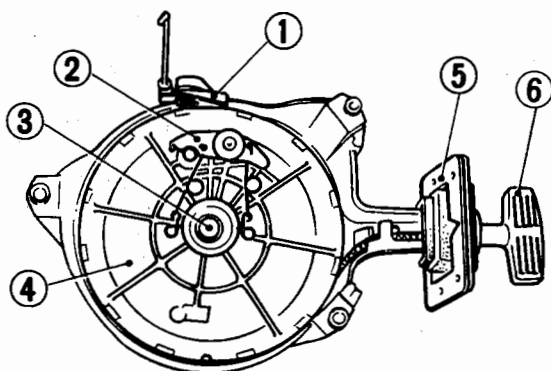

Fig. 98 Assembling the recoil starter
- 1) Remove the starter lock lever snap ring in order to remove the starter lock rod assembly. (Fig. 98-(1))